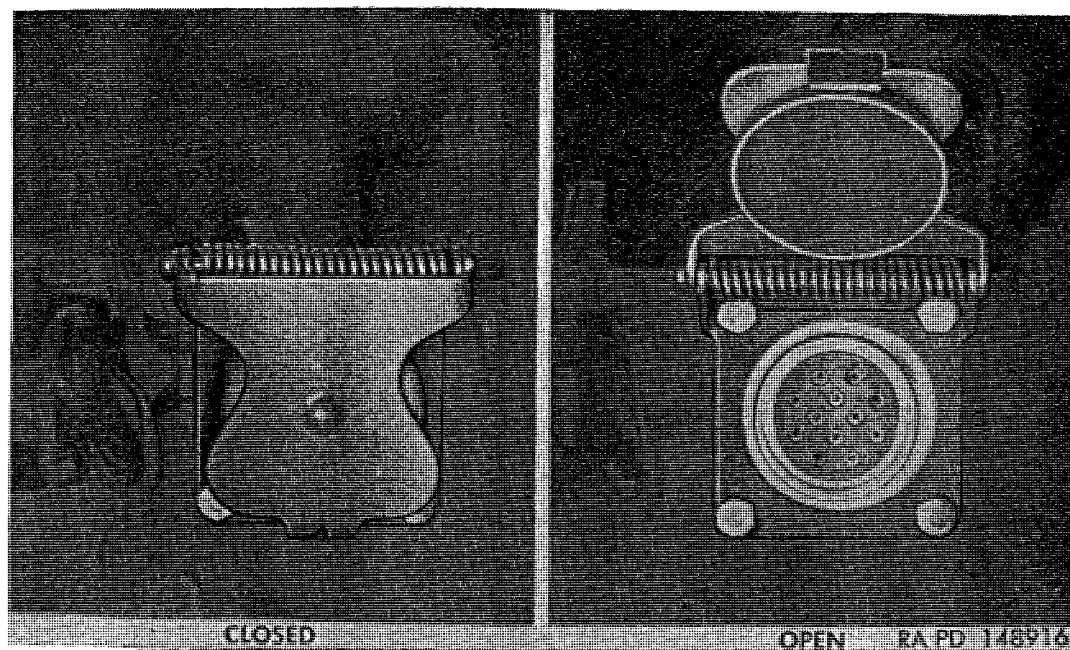

Figure 40. Trailer receptacle at rear of vehicle (all models, except M217 and M222).
- (1) The trailer receptacle (fig. 40) at rear of frame used on all models except M217 and M222, is interconnected with the main light switch. The main light switch controls blackout and service lights on trailer simultaneously with those on vehicle. Clip on receptacle cover holds trailer harness plug in place.